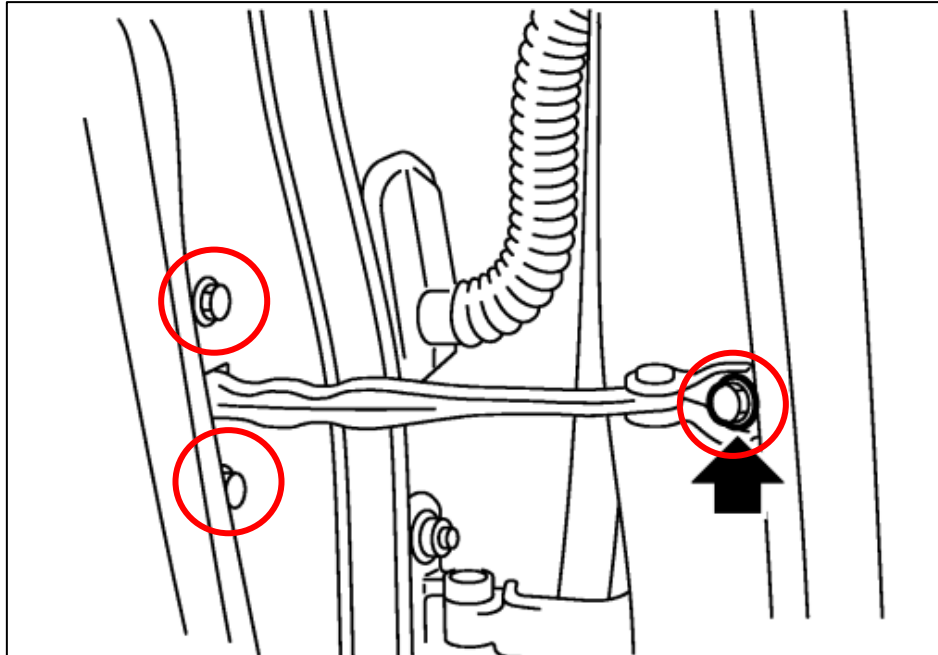

Figure 73
11. Open the door as wide as you can. Disconnect the (3) three 10mm Bolts that secure the Check Link to the vehicle. *Figure 73.*